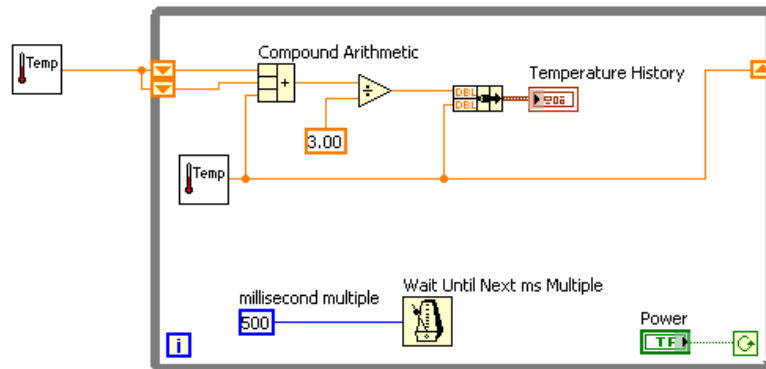

Figure 7.11
1. Modify the block diagram as shown in Figure 7.11.